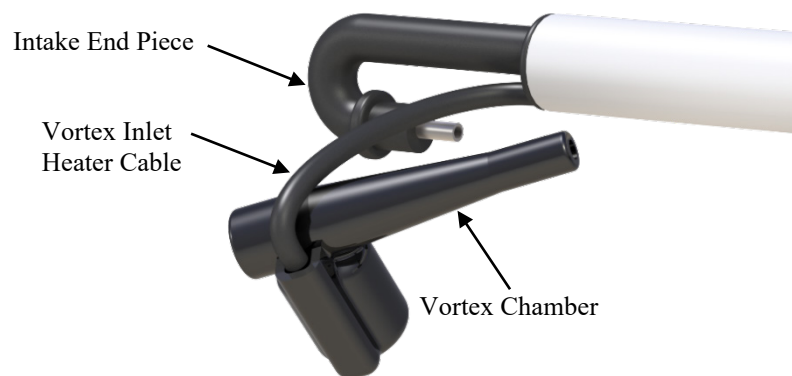

FIGURE 9-3. Pulling gently backwards on the vortex chamber will release it from the intake end piece. The vortex inlet heater cable remains attached.
4. Pull the vortex chamber slightly backwards towards the sample cell in order to free it from the intake end piece. Refer to FIGURE 9-3.